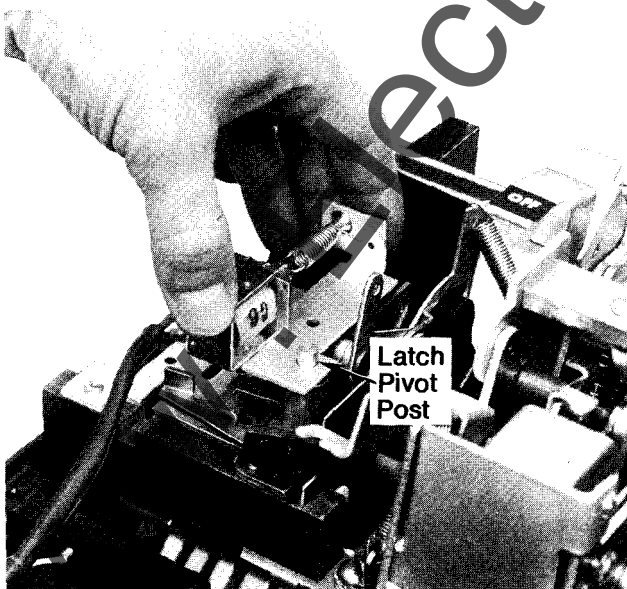

Fig. 17.
5. Position the UVR assembly mounting bracket so that its retaining hole engages the latch pivot post as shown in Fig. 17.